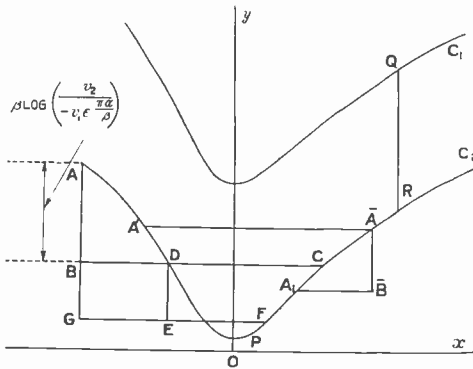

Fig. 3.
drawn for each of the sides of the polygon. The curve will be always supposed to be plotted for positive β and has the general shape shown in Fig. 3.
Let us consider the case of $v > 0$ in more detail. Let us denote $\frac{\dot{v}}{v}$ by x . Then in virtue of (5), changes in y are equal and opposite to changes in $\beta \log v$. If now \dot{v} is also positive then $\frac{\dot{v}}{v}$ is positive and corresponds therefore to a point \bar{A} (see Fig. 3) on the right branch of the curve. Since $\dot{v} > 0$, v is increasing, and, hence, by (5) y is decreasing so that the point corresponding to $\frac{\dot{v}}{v}$ slides down the curve. If its
Thus we found that IF THE SYSTEM TURNS BACK ON THE SIDE OF THE POLYGON AND IF THE VALUE OF $\frac{\dot{v}}{v}$ WHEN IT ENTERS THE SIDE IS THE VALUE OF x AT \bar{A} , THEN THE VALUE OF $\frac{\dot{v}}{v}$ WHEN IT LEAVES THE SIDE IS THE VALUE OF x AT A' WHERE THE LINE $\bar{A}A'$ IS PARALLEL TO OX. (See Fig. 3.)
Thus if $v_1 < 0$ and v_2, \dot{v}_1 are > 0 WE STEP DOWN BY THE AMOUNT $\beta \log \frac{v_2}{-v_1 \epsilon^{\pi\alpha/\beta}}$ AND PASS TO THE OPPOSITE BRANCH OF THE CURVE as is shown by passing from A to C in Fig. 3.
We are now ready to treat the case in which the system enters a side, passes the point $v = 0$, comes to its turning point, passes the point $v = 0$ again, and finally leaves the side. It is clear that at the beginning $\frac{\dot{v}}{v}$ is negative. The values of v and \dot{v} at the beginning we call \dot{v}, v_1 . We choose a value v_2 between 0 and the turning point. The diagram then proceeds along A B C D E F (Fig. 3), where
By (4') $v = V - E$ for this case. Thus, since V and \dot{V} are continuous v and \dot{v} are also continuous, and consequently $\frac{\dot{v}}{v}$ is continuous. Therefore, if the representative curves of two adjacent sides of the polygon are C_1 and C_2 (Fig. 3), and if on leaving the first side the representative point is at P then on starting on the second side the representative point is Q where PQ is parallel to OY. Thus, in discussing the motion of the system we need not deal with the values of $\frac{\dot{v}}{v}$. It suffices to make the construction for the representative point on leaving a side and then to transfer the point in a direction parallel to OY to the curve of the next side. In such a way we shall follow the motion of the system and we shall find how the steady oscillation is established.
The introduction of a few more sides does not involve any complications because the construction there is the simple one shown in Fig. 3 for the case $\bar{A} \bar{B} A_1$.